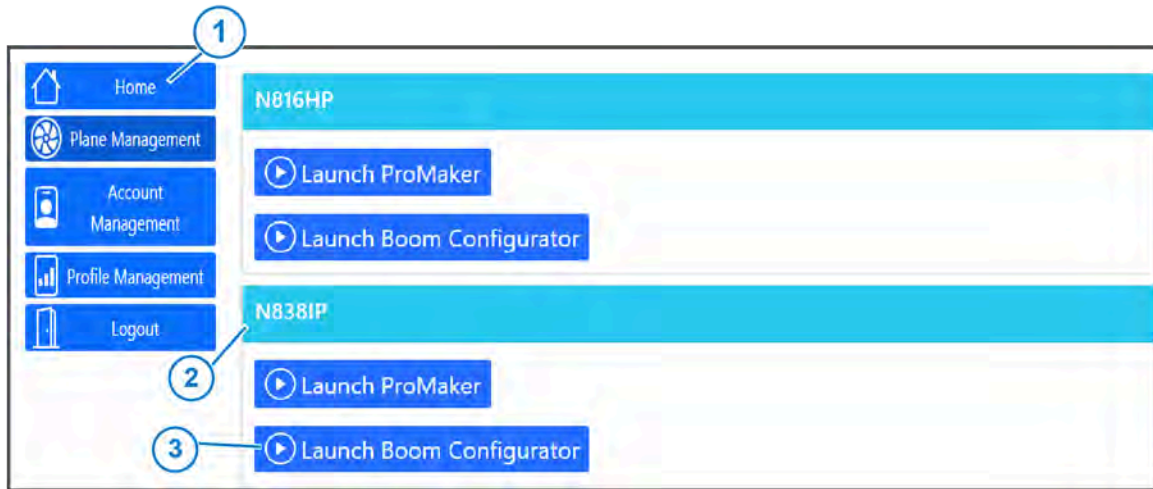

Figure 6: Home Screen
1. Log into your ProMaker account at <https://promaker.capstanair.com> or select **Home** (Figure 6, Item 1) from the sidebar.
2. In the box (Figure 6, Item 2) below the desired plane, select **Launch Boom Configuration** (Figure 6, Item 3).